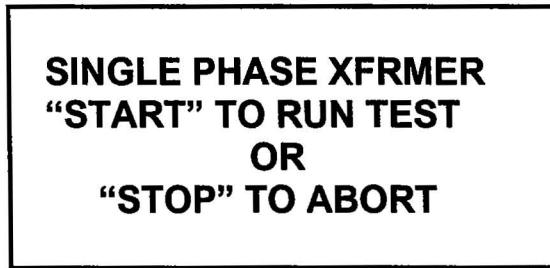

Figure 14-6. Start Test Menu
- c. Action Option:** Press key 1 (YES) to use the calculated ratio in the test results and advance to “Transformer Name Plate Voltage” menu (Figure 14-5). Press key 2 (NO) to bypass this option and advance to “Start Test” menu (Figure 14-6).
- 2. Press key 3 to use the current nameplate voltage and advance to “Start Test” menu (Figure 14-6).